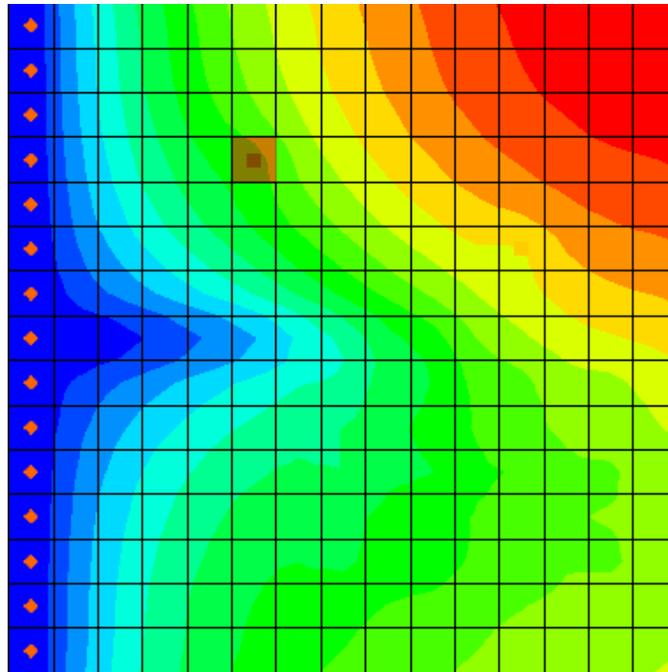

Figure 6 The well cell to select
2. Using the **Select Cell**  tool, right-click on the well cell in the upper left (*IJK* coordinates of “4, 6, 2”, Figure 6) and select **Sources/Sinks...** to bring up the *MODFLOW Sources/Sinks...* dialog.